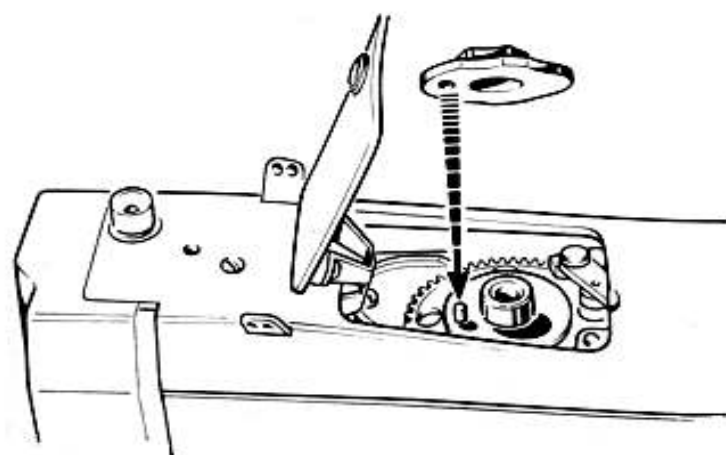

Fig. 50
- Insert desired disc onto the rotary shaft so that the mark pivot slips into the corresponding hole of the disc (Fig. 50).